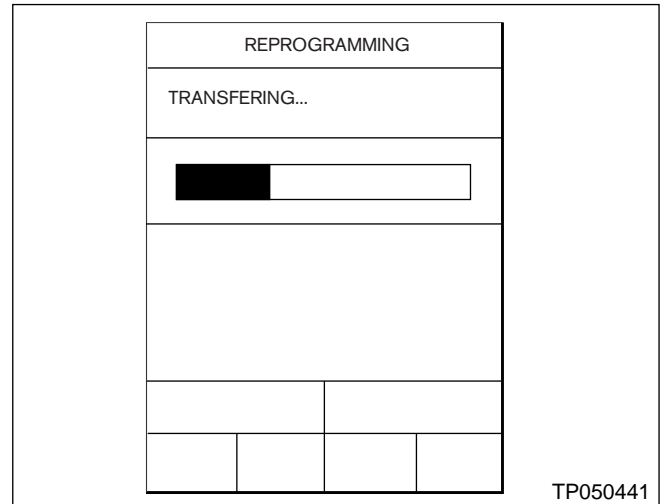

Figure 19
- After a few seconds, the window shown in Figure 19 will appear.